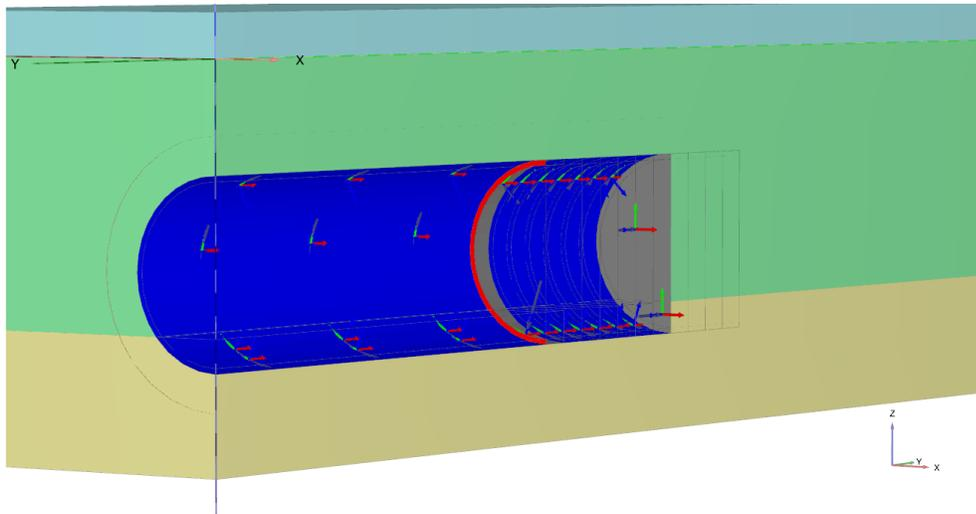

Figure 90: Selection of soil surfaces (25.0 m)
- c. In the drawing area select the lateral surfaces of the outer volume, corresponding to the last slice of the TBM (grout and jack thrusting) at 25.0 m (Figure 90 (on page 116)). In the **Selection explorer**, deactivate the surface load corresponding to the jack thrusting, because the TBM is only placed in this phase and it's not moving.